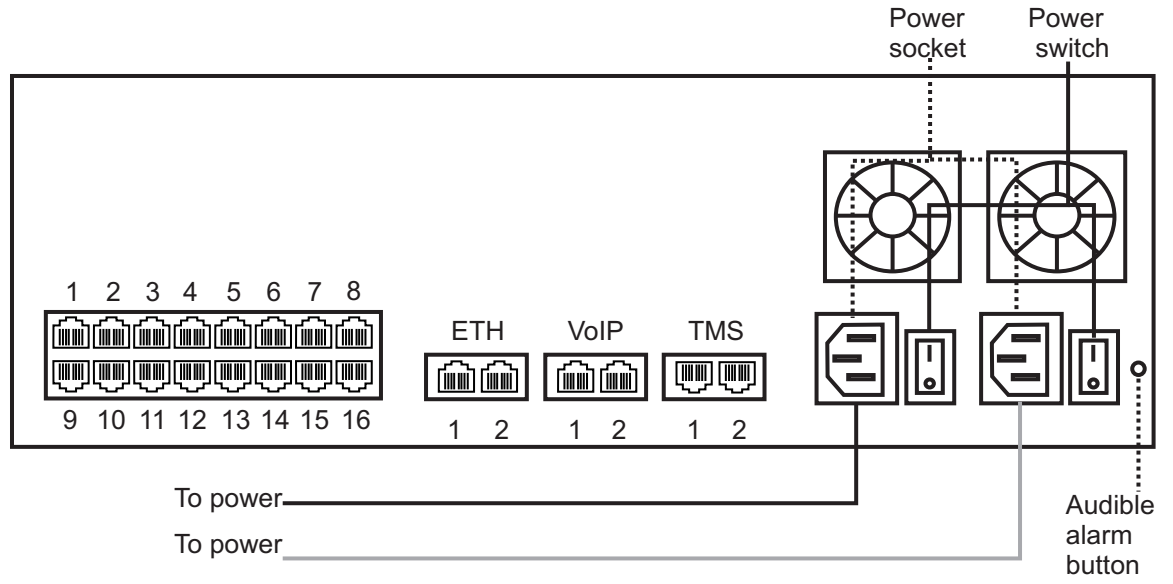

Figure 2.10 AC Power Connection
1. Connect the first AC power cable between the AC connector of the TMG5800 and an AC supply. Connect the second AC power cable between the AC connector of the TMG5800 and a second AC supply source. See figure 2.10 on page 20.
3. It is recommended that each power connector be connected to independent power sources. If the second power supply is not connected to an AC power source, press the green button located at the rear of the unit to disable the audible alarm. See figure 2.10 on page 20.